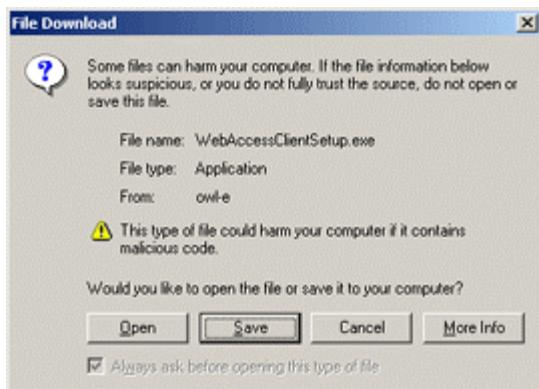

Figure 1.16 - Windows File Download dialog box
3. Windows File Download Dialog Box appears (Figure 1.16).
4. Select **Save** (Figure 1.16) to save Setup.exe to disk. (Desktop).